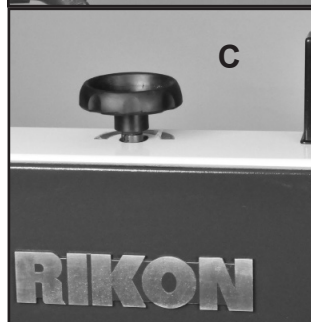

FIGURE 8
1. Assemble the Tool Holder (#78A) to the column rear with two Phillips Screws (#77A). Fig. 8. Handy storage for the Hex Wrenches (3, 4, 5, 6mm).